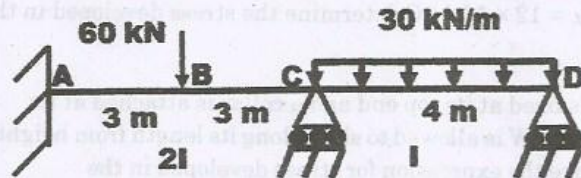

Fig. 12 (a) and (b)
12. a) A two span beam is subjected to loads as shown in Fig. 12 (a). Using Clapeyron's three moment equations determine the support reactions.
- b) Determine the support reactions of the beam shown in Fig. 12 (b) by applying moment distribution method.